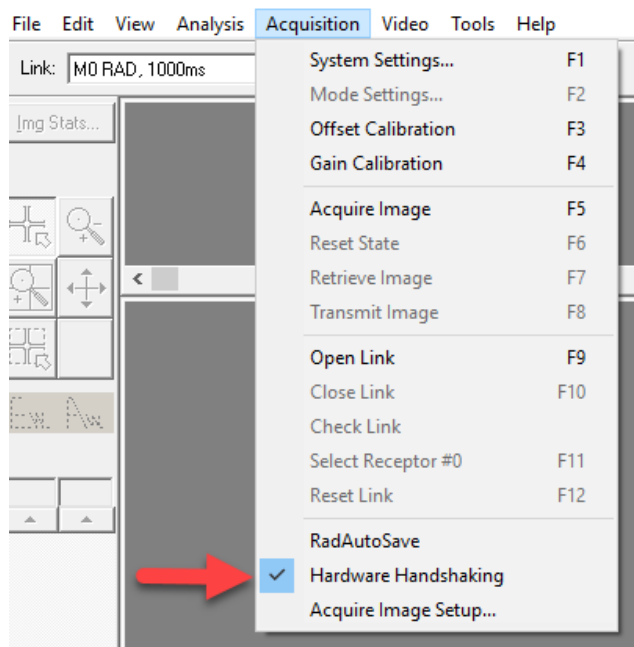

Figure 34 Hardware Handshaking Selected
In order to acquire an image with X-ray exposure in vTrigger mode, Hardware Handshaking must be enabled, see Figure 34, or an image without exposure will be returned.
- 2 Make sure **Hardware Handshaking** is selected, see Figure 34.